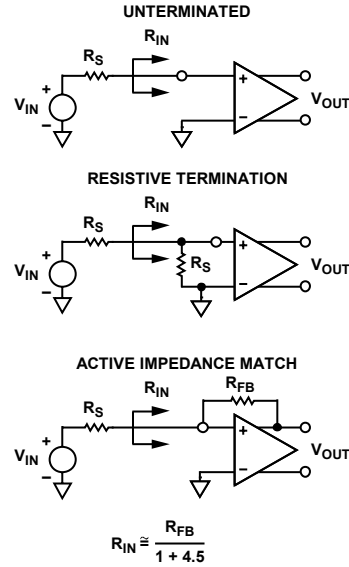
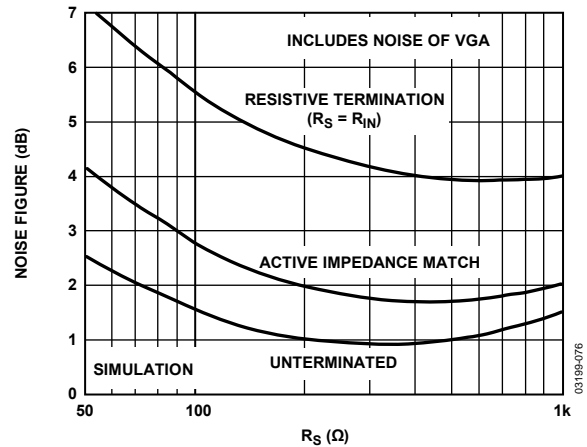
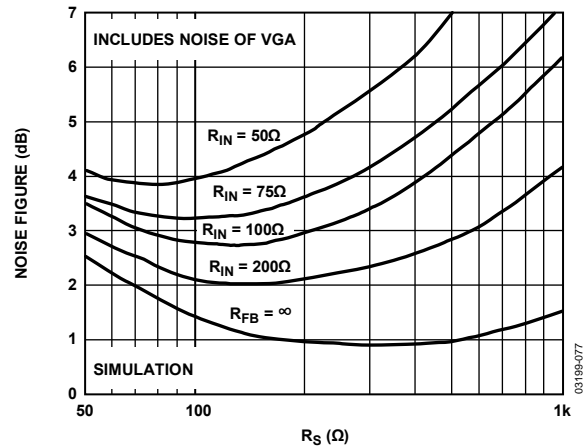

Figure 75. Input Configurations
Figure 76. Noise Figure vs.  $R_S$  for Resistive, Active Matched and Unterminated Inputs
Figure 77. Noise Figure vs.  $R_S$  for Various Fixed Values of  $R_{IN}$ , Actively Matched
The input-referred voltage noise sets an important limit on system performance. The short-circuit input voltage noise of the LNA is  $0.74\text{ nV}/\sqrt{\text{Hz}}$  or  $0.82\text{ nV}/\sqrt{\text{Hz}}$  (at maximum gain), including the VGA noise. The open-circuit current noise is  $2.5\text{ pA}/\sqrt{\text{Hz}}$ . These measurements, taken without a feedback resistor, provide the basis for calculating the input noise and noise figure performance of the configurations in Figure 75. Figure 76 and Figure 77 are simulations extracted from these results, and the  $4.1\text{ dB}$  NF measurement with the input actively matched to a  $50\ \Omega$  source. Unterminated ( $R_{FB} = \infty$ ) operation exhibits the lowest equivalent input noise and noise figure. Figure 76 shows the noise figure vs. source resistance, rising at low  $R_S$ , where the LNA voltage noise is large compared to the source noise, and again at high  $R_S$  due to current noise. The VGA's input-referred voltage noise of  $2.7\text{ nV}/\sqrt{\text{Hz}}$  is included in all of the curves.
The primary purpose of input impedance matching is to improve the system transient response. With resistive termination, the input noise increases due to the thermal noise of the matching resistor and the increased contribution of the LNA's input voltage noise generator. With active impedance matching, however, the contributions of both are smaller than they would be for resistive termination by a factor of  $1/(1 + \text{LNA Gain})$ . Figure 76 shows their relative noise figure (NF) performance. In this graph, the input impedance was swept with  $R_S$  to preserve the match at each point. The noise figures for a source impedance of  $50\ \Omega$  are 7.1 dB, 4.1 dB, and 2.5 dB, respectively, for the resistive, active, and unterminated configurations. The noise figures for  $200\ \Omega$  are 4.6 dB, 2.0 dB, and 1.0 dB, respectively.
Figure 77 is a plot of the NF vs.  $R_S$  for various values of  $R_{IN}$ , which is helpful for design purposes. The plateau in the NF for actively matched inputs mitigates source impedance variations. For comparison purposes, a preamp with a gain of 19 dB and noise spectral density of  $1.0\ \text{nV}/\sqrt{\text{Hz}}$ , combined with a VGA with  $3.75\ \text{nV}/\sqrt{\text{Hz}}$ , yields a noise figure degradation of approximately 1.5 dB (for most input impedances), significantly worse than the AD8332 performance.